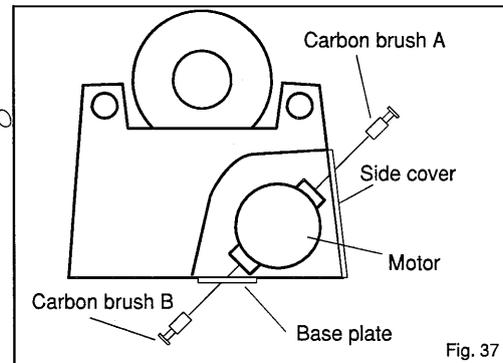

Fig. 37
2. Replacing the Carbon Brushes (Fig. 37)